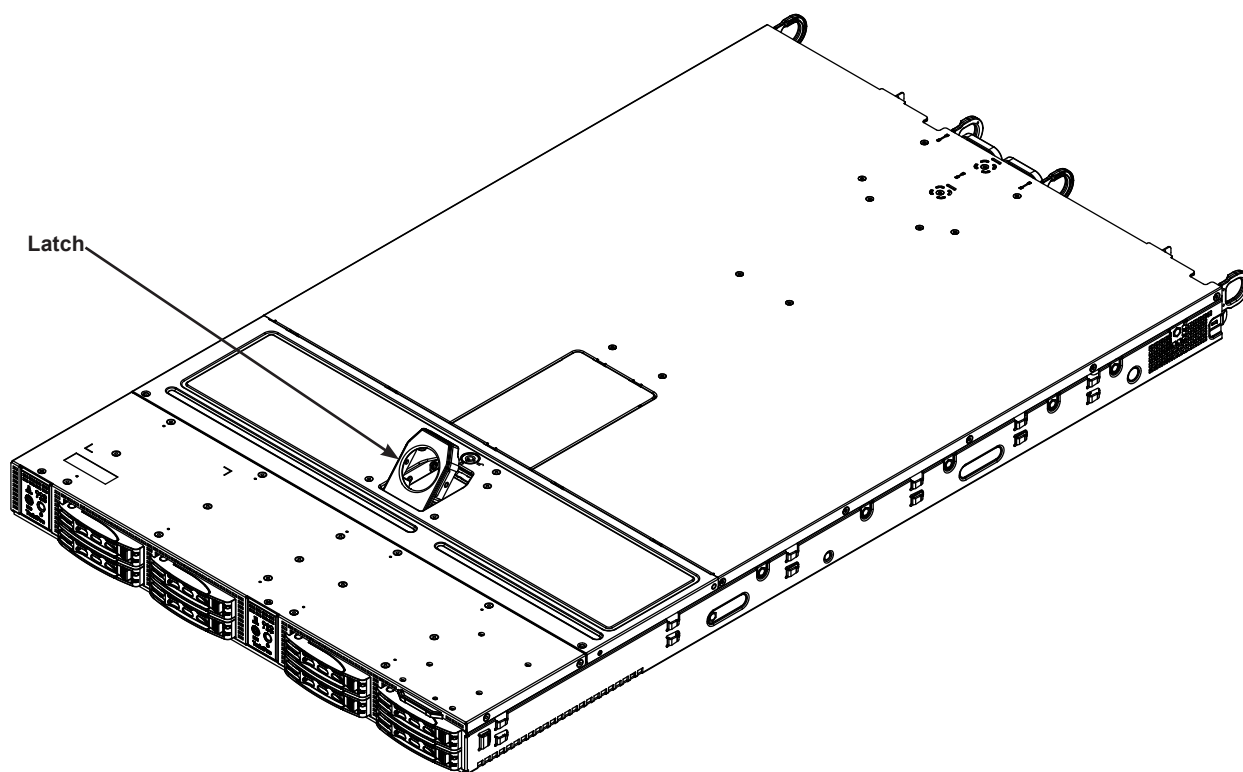
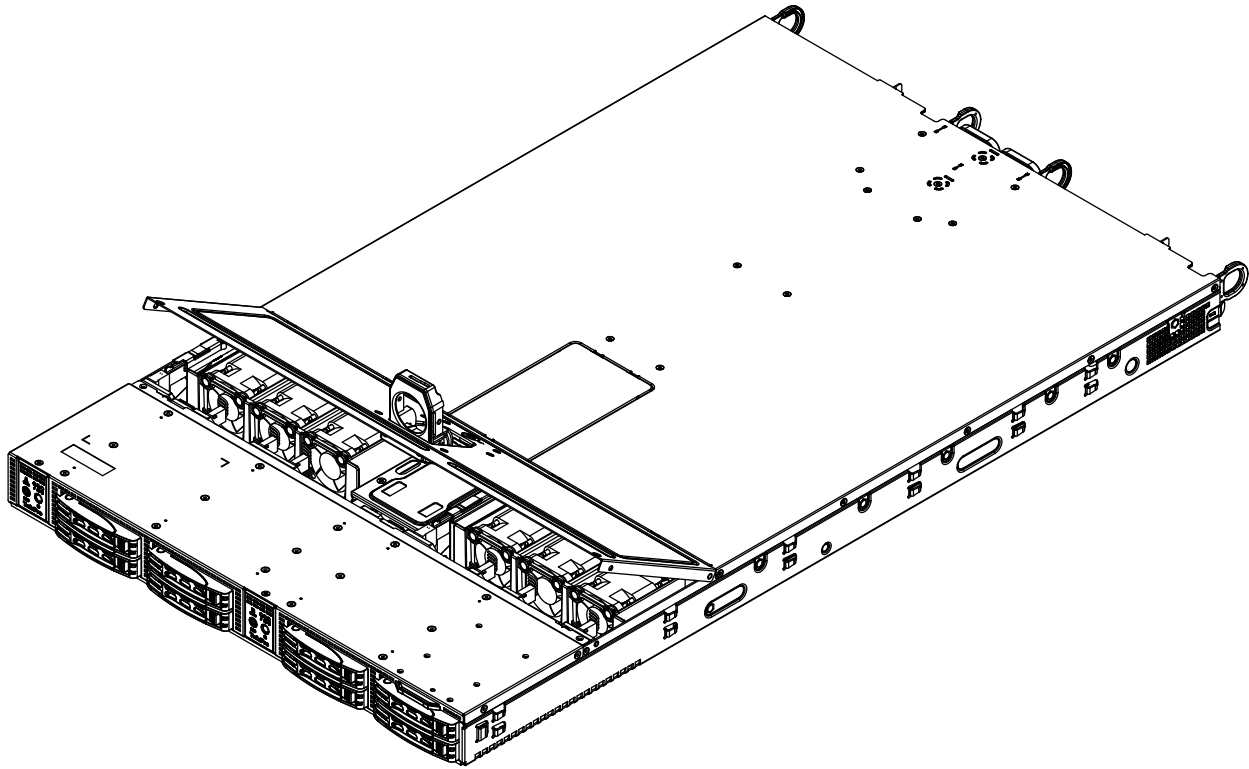

Figure 3-3. Pulling the Cover Latch
Figure 3-4. Cover Open
4. Lift the latch, pulling up and toward the chassis front (see figure 3-3, figure 3-4).